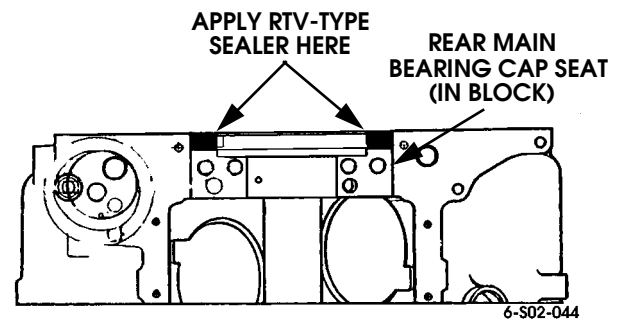

Figure 2-180: Sealer Application Points in Rear Main Bearing Cap Seat
11. Apply Permatex High Temp silicone sealer to rear main bearing cap seat in block (Figure 2-180).